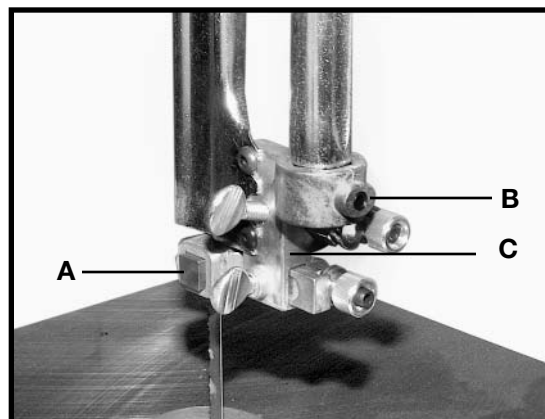

Fig. 25
3. Adjust the upper blade guide assembly so that the blade guides (A) Fig. 25 are parallel to the blade. To adjust, loosen screw (B) and rotate the complete guide assembly (C) until the blade guides are parallel to the blade.